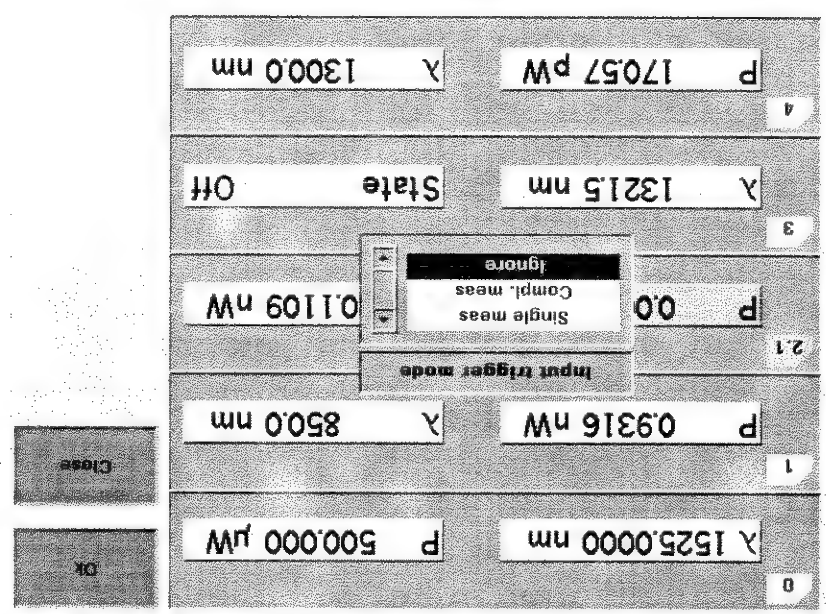

Figure 54 Input Trigger Mode
- 3 Move to <Input Trigger Mode>, by using the cursor key, and press *Enter*. You will see the screen in Figure 54.